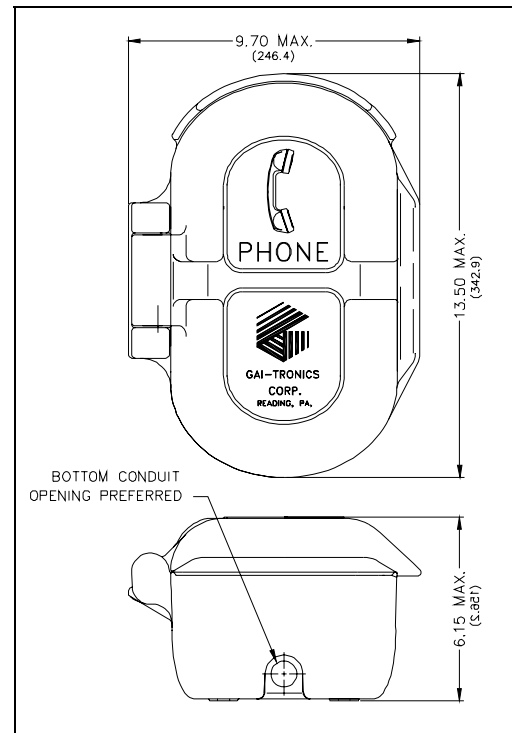

Figure 4. Model 227-003 Outline
5. Install a conduit fitting in one of the 1/2-inch NPT conduit entrances provided at both the top and bottom of the unit, and insert the conduit into the fitting. (The bottom location is preferred. See Figure 4.) Plug the unused access hole using the 3/8-inch Allen drive plug provided.